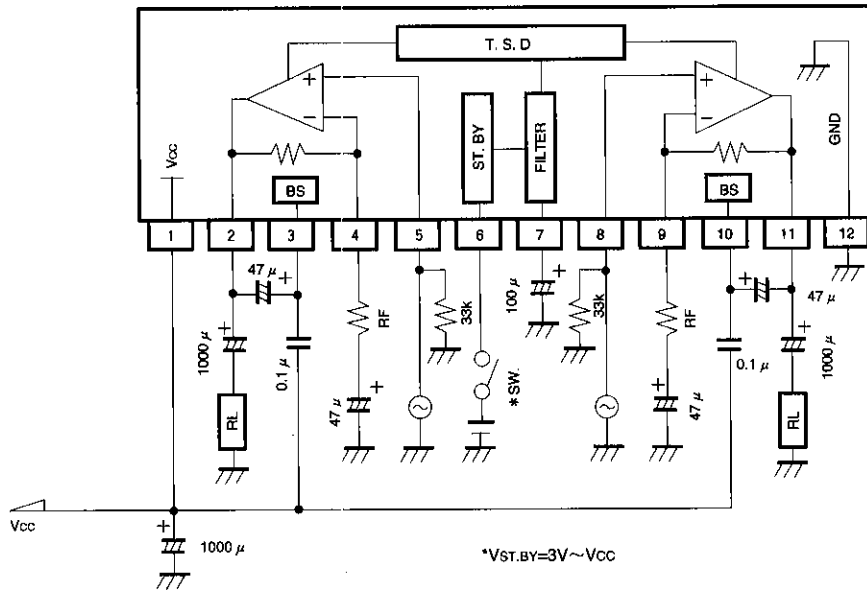

Fig. 1
10. Standard values for the DC voltages on each pin ( $V_{CC} = 12V$ ,  $T_a = 25^\circ C$ , test circuit : Fig. 1)